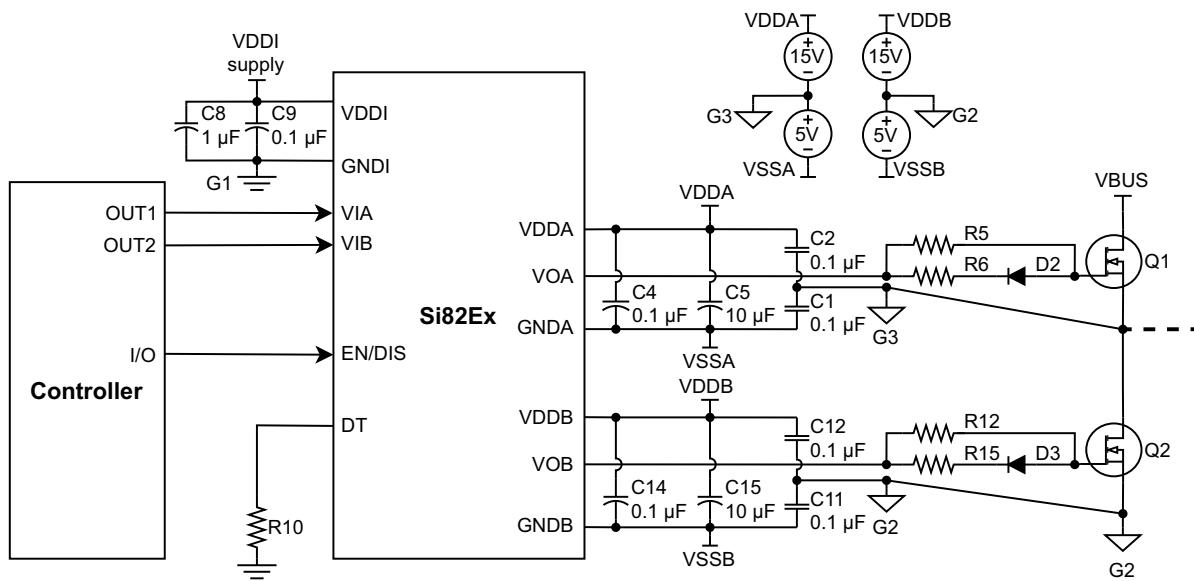

Figure 17. Bipolar Output Connection
Figure 17, “Bipolar Output Connection,” on page 19 is similar to the above high-side/low-side configuration except that the drivers produce bipolar  $V_{GS}$  output voltage. The bipolar  $V_{GS}$  output requires the system to provide positive and negative voltage sources. Please note that the bootstrap circuit cannot be used to share the low-side voltage sources with the high-side gate driver A for a bipolar  $V_{GS}$  output application. In this example, +15 V and -5 V sources are used for low-side gate driver B, and its reference point is also G2. The other set of +15 V and -5 V sources are used for the high-side gate driver A. The high-side voltage sources' reference G3 is electrically connected to FET Q1's source. Please note that the voltage potential at FET Q1's source jumps between VBUS and reference G2. Thus, the high-side voltage sources need to be isolated from reference G2 as well.
- If the system is designed to provide a bipolar  $V_{GS}$  output, additional bypass capacitors (C1, C2, C11, and C12 in Figure 17, “Bipolar Output Connection,” on page 19) are required to minimize the return path length of the gate drive signals.